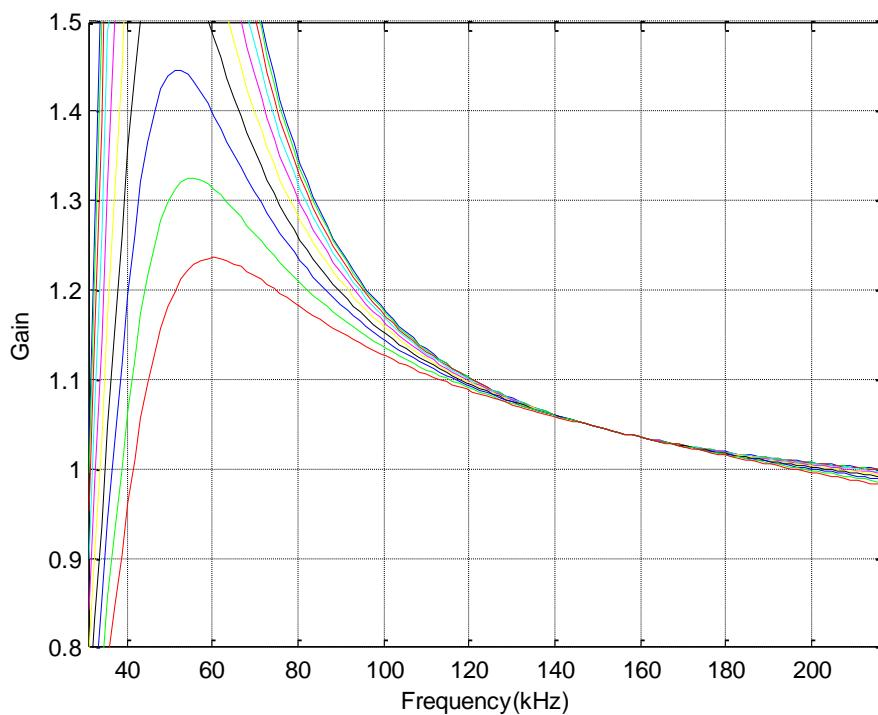

Fig. 6 The gain of the resonant tank under different load conditions
where  $k$  is the ratio of inductance for magnetizing inductance to leakage inductance denoting as  $k = L_m/L_r$ ; and  $f_s$  is the converter switching frequency,  $Q$  is the quality factor denoting as  $Q = (\pi^2/8a^2R_L)\sqrt{(L_r/C_r)}$ , and  $R_L$  is the equivalent load resistance. Table 2 is main parameters of LLC resonant tank design. According to (2), the voltage gain of the resonant tank under different load conditions is shown as Fig. 6.